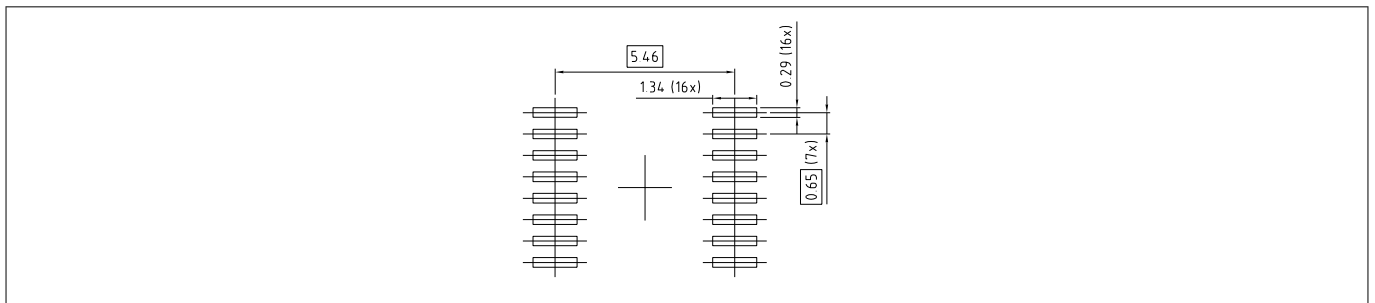

Figure 25 Footprint
| 2.0 | 2018-12 | <p>TLE5x09A16(D) family sensor datasheet released</p> <p>Changes TLE5009A16(D) rev. 1.2 to TLE5x09A16(D) rev. 2.0: Chapter 2.4 Error diagnosis: internal detectable errors removed. Table 9 differential mode: vector length removed. Figure 25: die displacement added.</p> <p>TLE5109A16(D) - initial release in TLE5x09A16(D) rev. 2.0</p> <p>Changes TLE5309D rev. 1.1 to TLE5x09A16(D) rev. 2.0: Table 6: Magnetic induction AMR added. Chapter 2.4 Error diagnosis: internal detectable errors removed. Table 8 single-ended: AMR synchronism to +/- 6 % changed. Table 9 differential mode: AMR synchronism to +/- 6 % changed. Table 9 differential mode: vector length removed.</p> <p>Table 10: footnote angle error adder at low magnetic field for AMR added. Table 11: footnote angle error adder at low magnetic field for AMR added. Table 11: AMR single-ended one-time calibrated angle error improved. Figure 25: die displacement added.</p> |